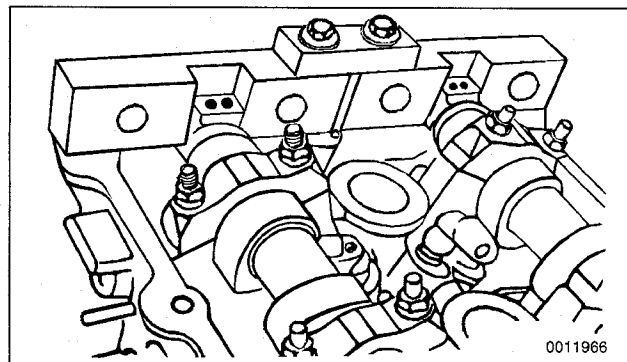

Fig. 35. Camshaft locking tool (BMW special tool no. 11 3 240) installed on rear of camshafts. (M44 engine shown. Other engines are similar.)
- Mount BMW special tool no. 11 3 240 over square ends of camshafts. Check that tool is squarely seated on cylinder head gasket surface. If necessary, rotate camshafts slightly using a 24 mm wrench at hex on camshaft(s). See Fig. 35.